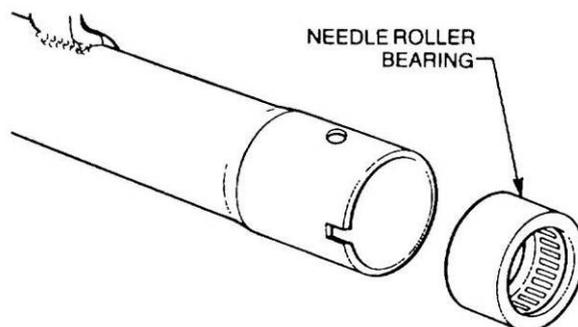

Figure 141 Removal of the Upper Column Bearing
- c. Using a suitable drift, drive the needle roller bearing from the outer column (Figure 141).